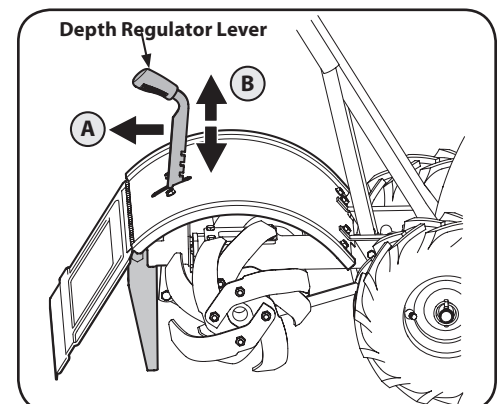

Figure 3-2
3. Move the depth regulator lever all the way down to the "travel" position, so that the tines clear the ground. To change the depth setting, pull back on the depth regulator lever (A) and lift up or down (B), then release the lever (C) to secure in the desired position. See Figure 3-2.